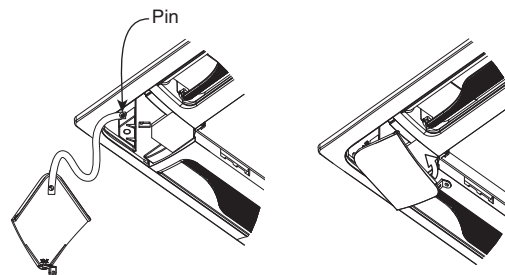

Fig. 3-49
- (1) Check that the safety cord from the corner cover is fastened to the ceiling panel pin, as shown in the figure. (Fig. 3-49)
- (2) Use the supplied screws to attach the corner cover to the ceiling panel.